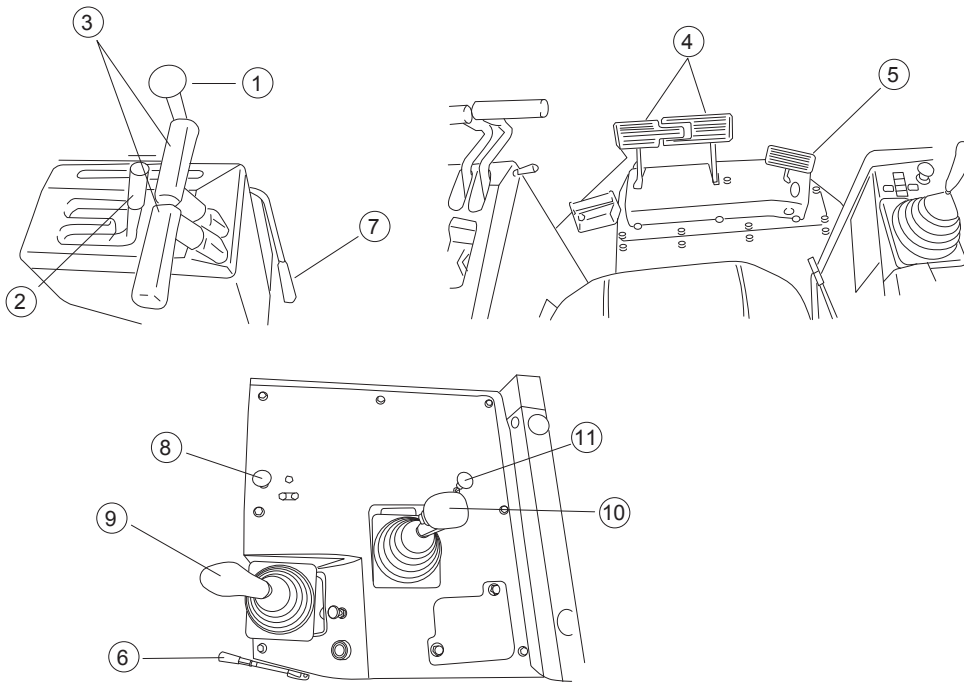

Figure 2-2
2.1.2 ROLES OF VARIOUS CONTROLS (FIGURE 2-2)